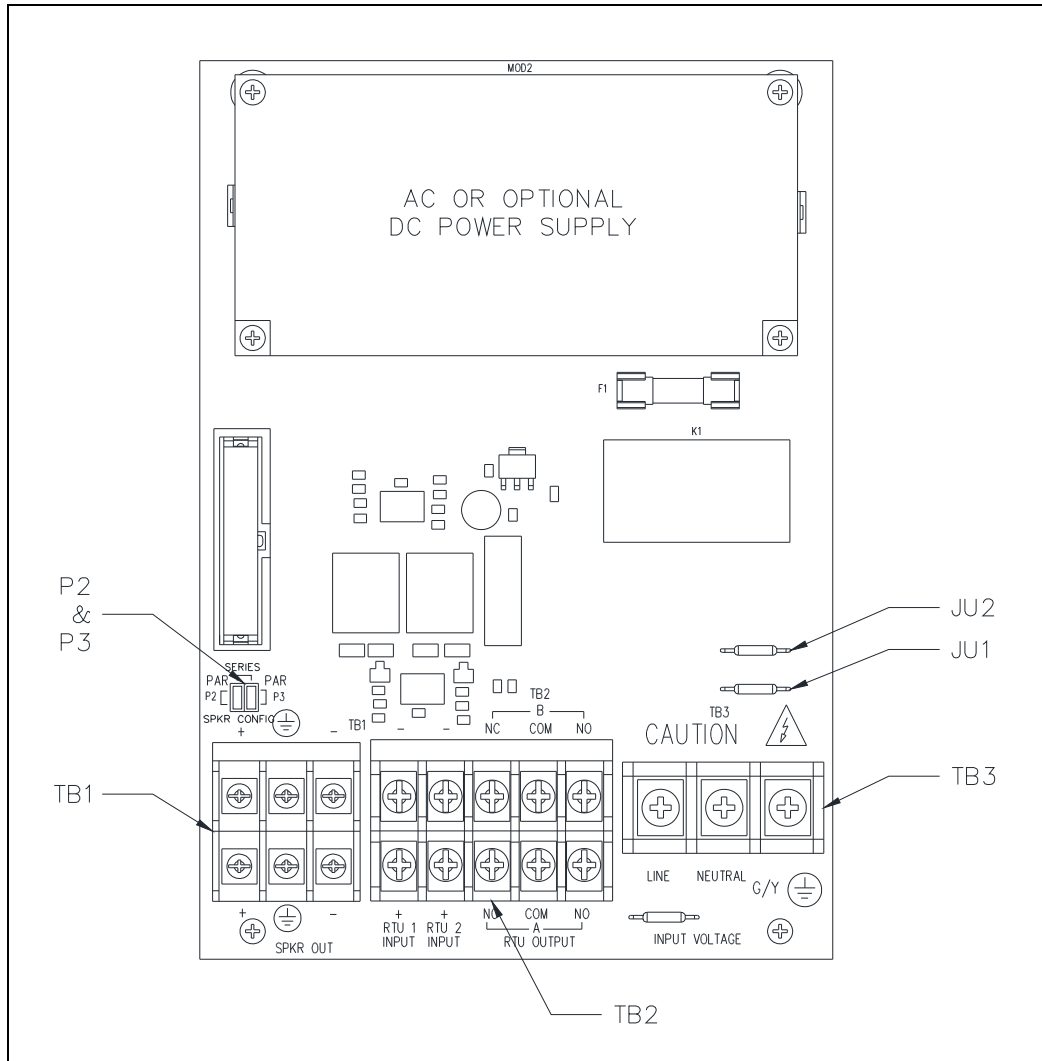
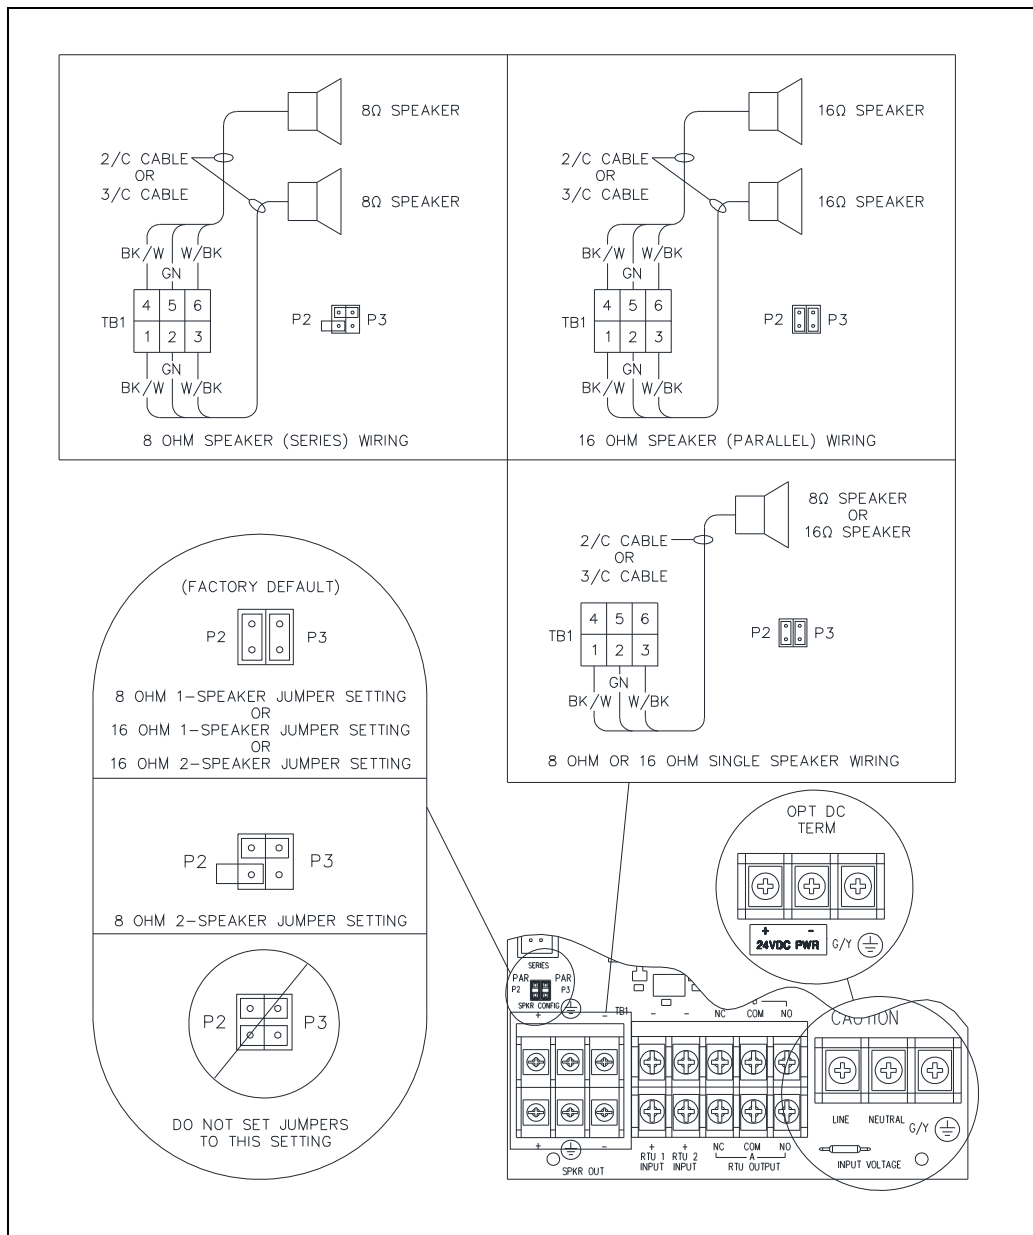
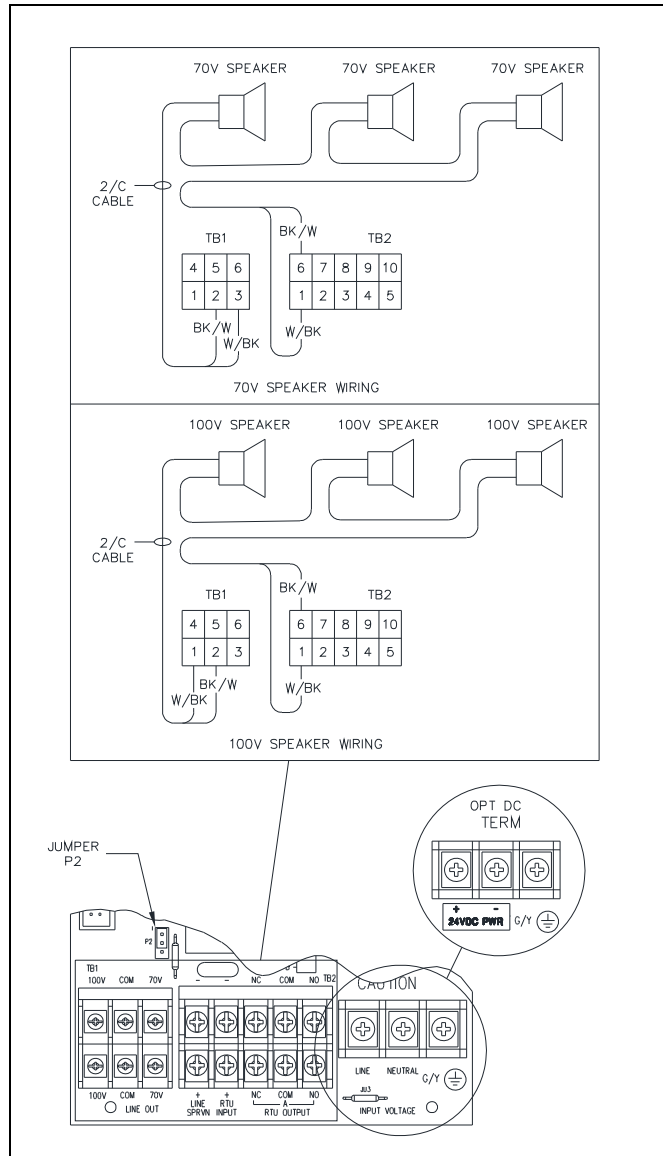
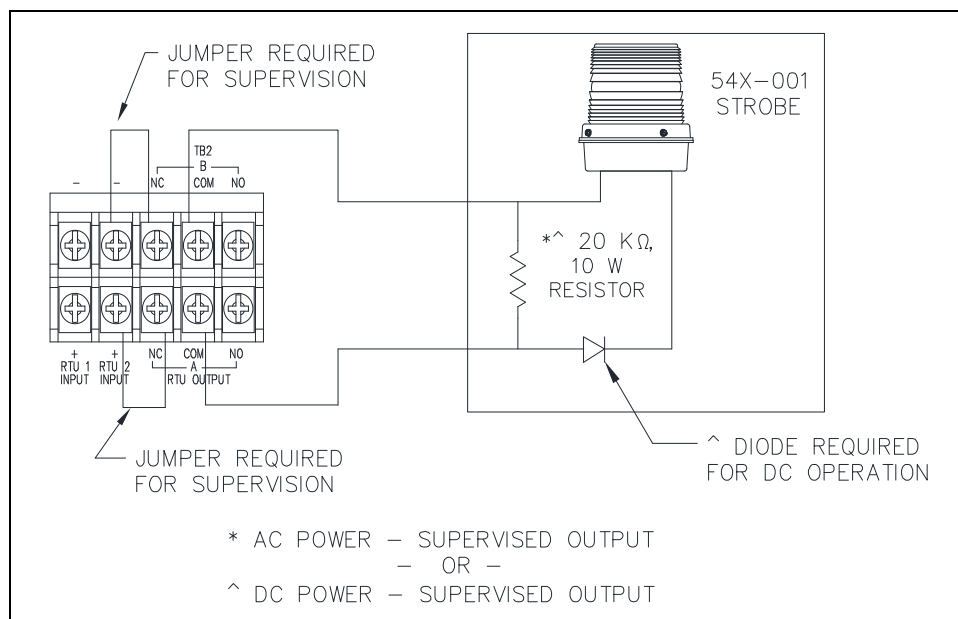

Figure 4. SP2 Standard Termination PCBA
Figure 5. 8/16-ohm Speaker Impedance Configuration and AC/DC Termination at TB3
Figure 6. 70-V/100-V Termination PCBA
Figure 8. Supervised Output Wiring—TB2
5. Configure the speaker jumpers, P2 and P3, for the appropriate impedance for use with 8-ohm or 16-ohm speakers (see Figure 4 and Figure 5).
The optional 70-volt/100-volt speaker line-monitoring PCBA replaces the standard termination board and enables connection of 70-volt and/or 100-volt speakers to the SP2station. Terminate the station’s speaker loop(s) to terminal block TB1. Wire all speakers in parallel. One speaker loop can be monitored by terminating the return cable to the LINE SPRVN terminals at terminal block TB2 (see Figure 6 and Table 2).
The standard termination PCBA contains two auxiliary RTU inputs. The optional 70V/100V termination board provides speaker line monitoring and has just one auxiliary RTU input. Terminate the inputs at terminal block TB2 (see Figure 4).
Two form C contacts are provided to power a beacon (see Figure 8). Terminate the output at terminal block TB2 (see Figure 4). Configure the output for dry contact use by removing jumpers JU1 and JU2.
5. Install a 20-kilohm 10-watt resistor across the terminals of the beacon cable (see Figure 8).
6. Install jumpers at terminal block TB2 to enable cable monitoring (see Figure 8).
The ac or optional dc power supply is on the termination PCBA. Connect the local ac or dc power source to terminal block TB3 (see Figure 4, Figure 5, and Figure 6):